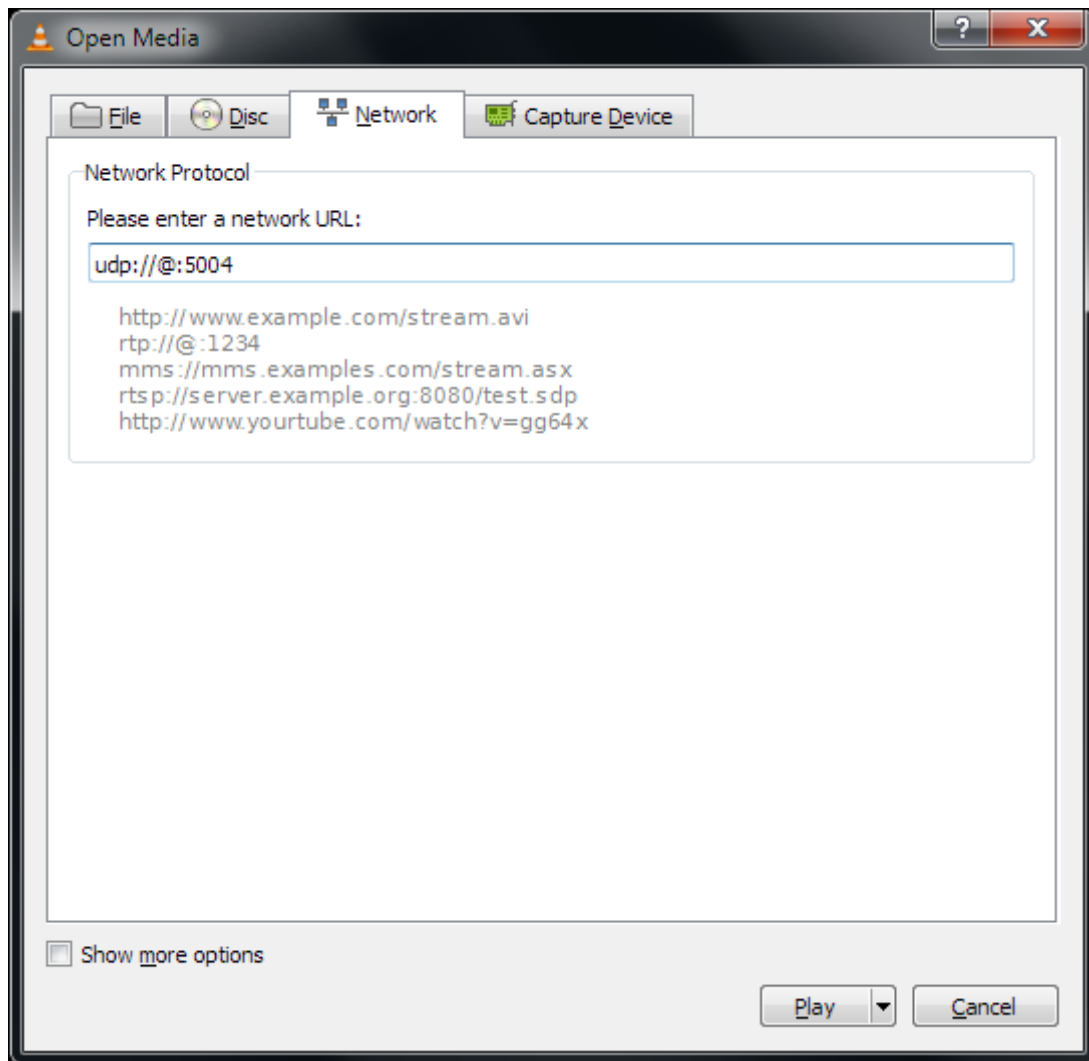

Figure 27: VLC media player
- In the network URL field, enter “udp://@:5004” (replacing 5004 with the port number you have specified in the output configuration (see Figure 27).